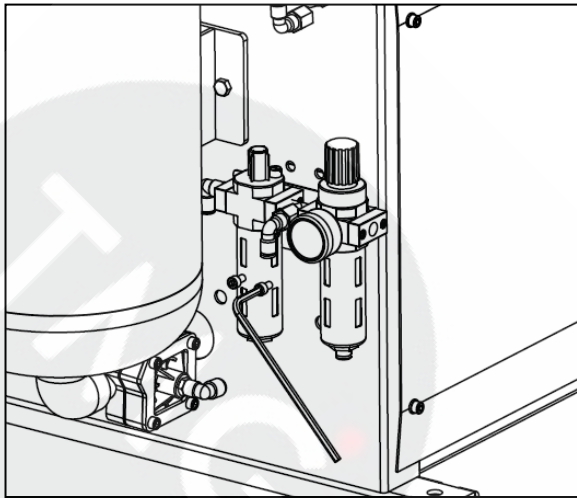

FIG6
- Install the air regulator to the right side of the air tank using 2 pieces of M6x10 screw by 5# Allen key like FIG6.
like FIG7-1 & FIG7-2. (This connector can avoid the PU hose to back into the main body. Connect the PU hose into the connectors of air regulator like FIG6. (if the machine is without the GT function, just need to connect the hose like FIG7-1).